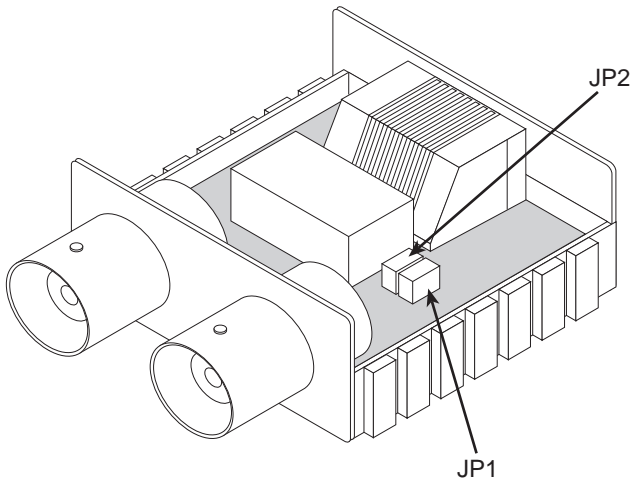
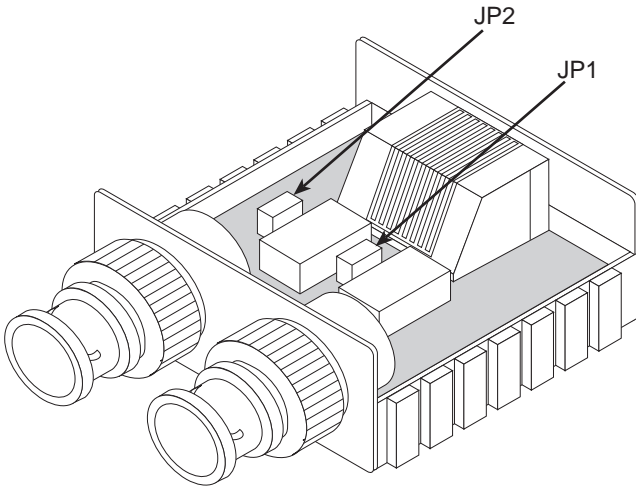

Figure 2. JP1 and JP2 locations for 460F and 460MC
Figure 3. JP1 and JP2 locations for 460M
The factory setting leaves jumpers JP1 and JP2 (see Figure 2 above and Figure 3 on page 7) in place, thus passing both shield connections through. To change one or both of the shield connections, do the following:
2. Using Figure 2 as a reference, remove the desired jumper(s) to break one or both shield connections.